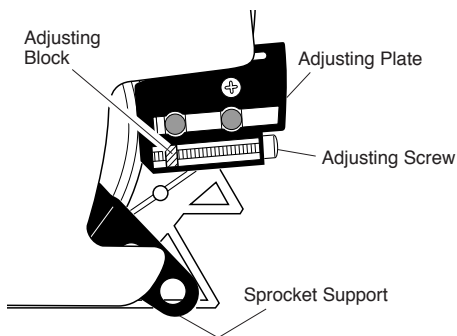

Figure 3 - Part Locations For Assembling Guide Bar
4. Turn adjusting screw counterclockwise (see Figure 3). Continue to turn adjusting screw until adjusting block is to rear of adjusting plate.
8. Place chain around drive sprocket, then along top groove of guide bar and around guide bar nose. **Note:** Make sure cutting edges of chain are facing the right direction. Position chain so cutting edges on top of guide bar face guide bar nose (see Figure 3).